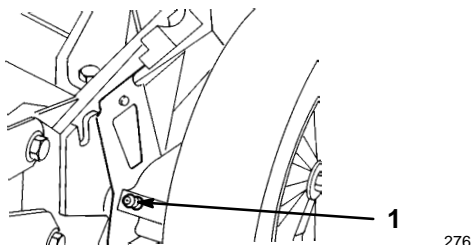

Figure 25
5. Wipe the grease fittings with a clean rag (Fig. 25).